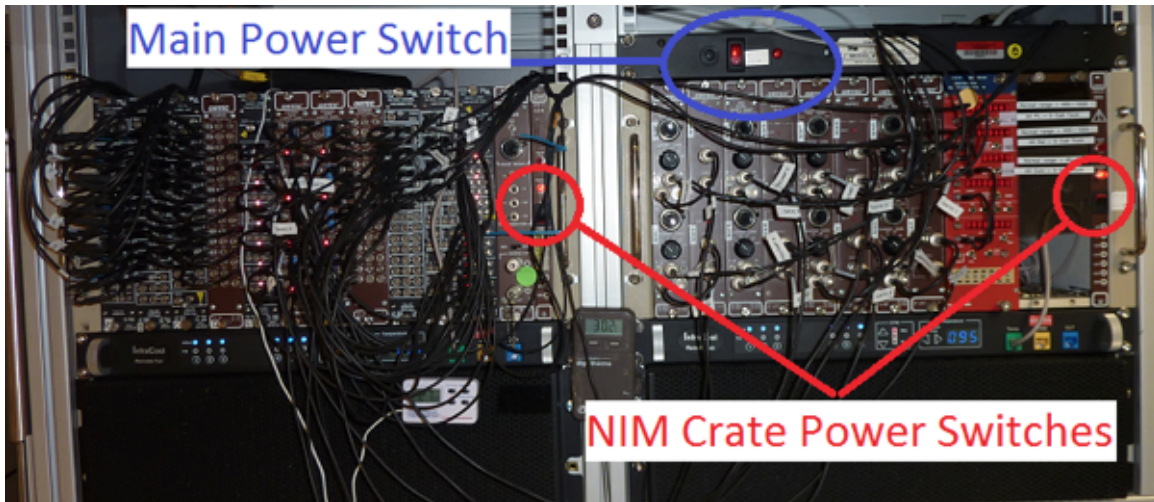

Figure 17. Master Power Switch.
3. **Turn off** the fast signal processing electronics (*Figure 17*; **leftmost NIM rack**).
5. **Turn off** the **master power switch** above the middle NIM rack (**blue circle** in *Figure 17*).
1. **Turn on** the **master power button** above the middle NIM rack (**blue circle** in *Figure 17*).